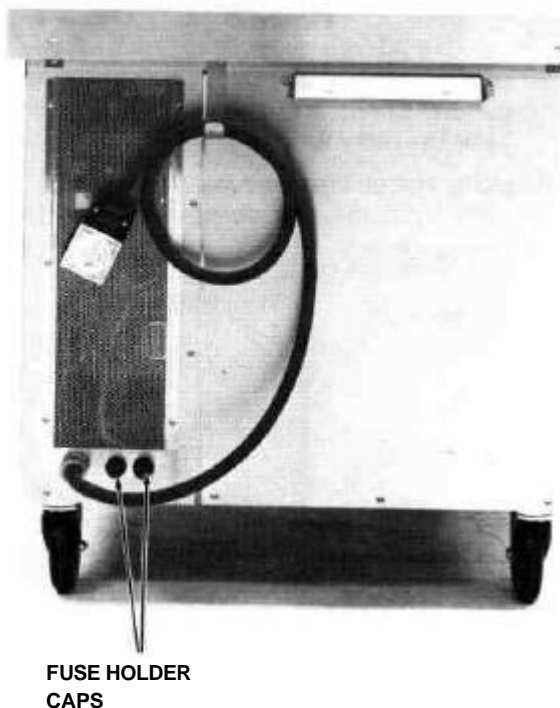

Figure 6
2. Press and twist off the fuse holder cap located in the lower left-hand corner of the back panel. Remove the fuse from the fuse holder cap. (See Figure 6)